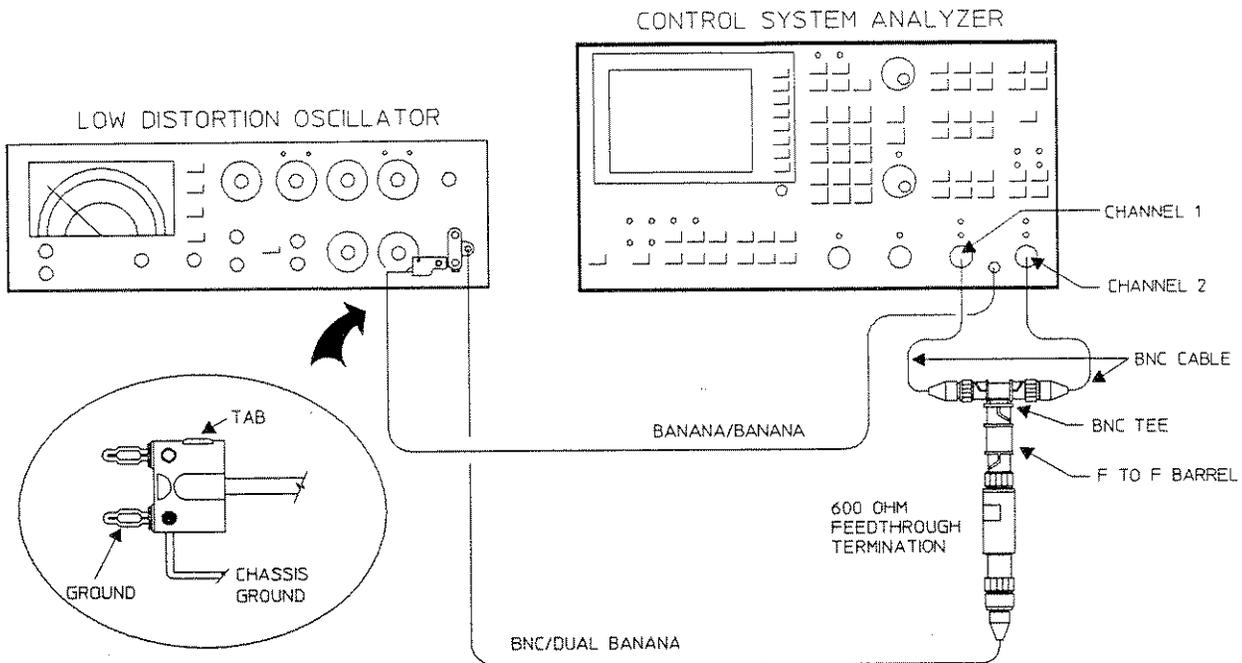

Figure 4-18. Harmonic Distortion Test Two Setup
1. Connect the test instruments as shown in Figure 4-18. The chassis ground cable must go to the ground terminal of the Low Distortion Oscillator.